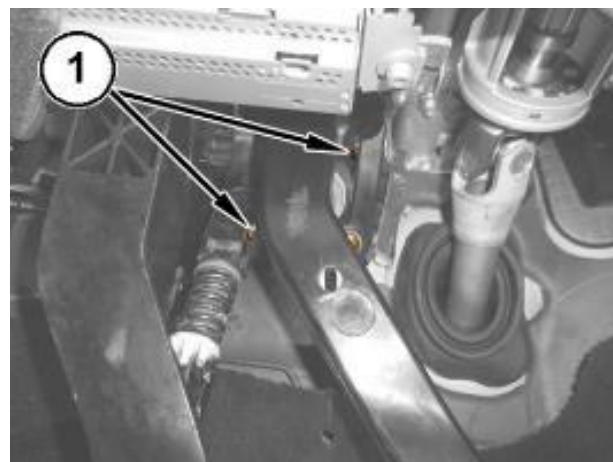

Figure 68 – ABS Module Nuts
63. Remove the nuts (1) attaching the ABS module to the pedal unit mounting (Figure 68).